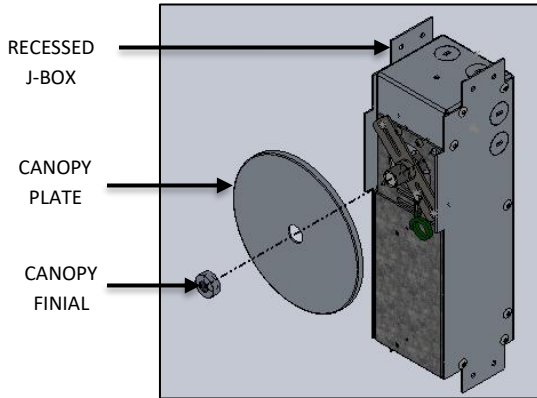

FIG. 9- FINIAL AND CANOPY DISASSEMBLY
1. Unscrew CANOPY FINIAL and remove the CANOPY PLATE out of J-BOX as shown in FIG 9.